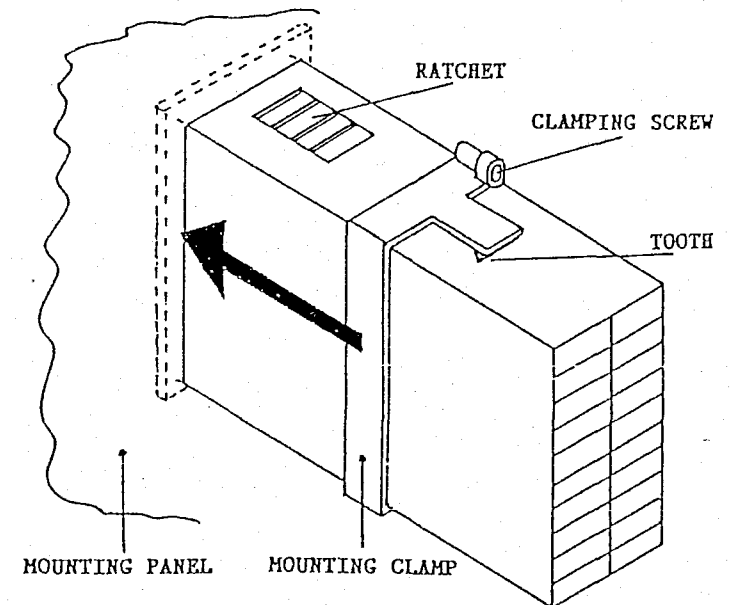

FIGURE 2-1 ATTACHMENT OF HOUSING TO MOUNTING PANEL
2.3 ATTACHING HOUSING TO MOUNTING PANEL (Figure 2-1)
Loosen the clamping screws (shown in Figure 2-1). Support the housing with one hand and remove the plastic mounting clamp by disengaging the teeth from the ratchets and sliding the mounting clamp rearwards. (Inserting stiff card or plastic between the teeth and the ratchets helps.)